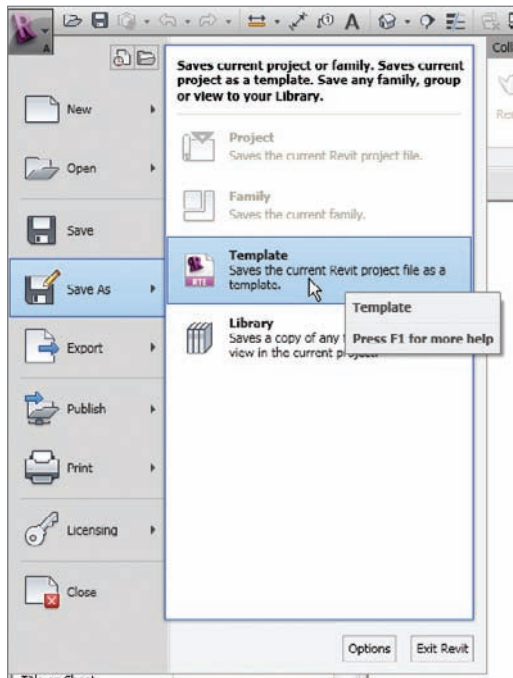

FIGURE 23.2 Saving as a Revit template
3. Click the Application button, and select Save As > Template, as shown in Figure 23.2.